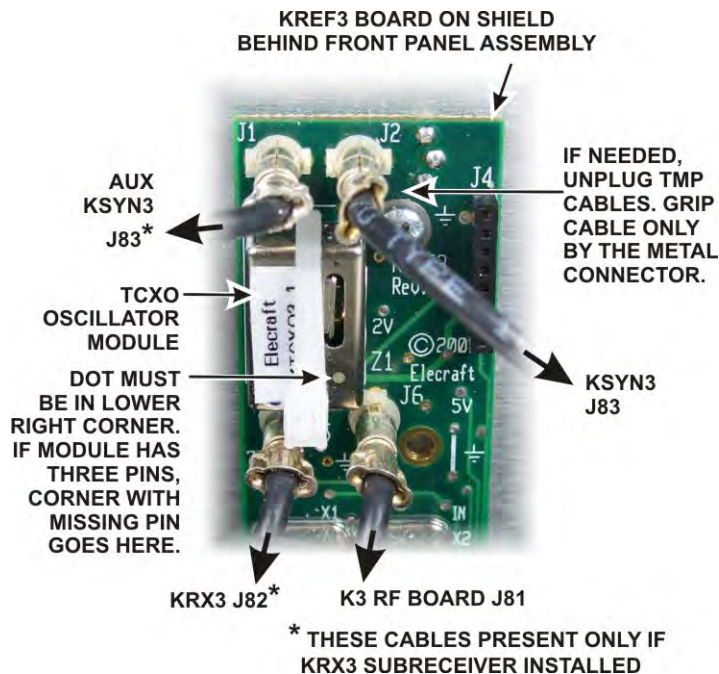

Figure 2. TCXO Module Installed on KREF3 PC Board.
- ☐ Locate the KREF3 circuit board. It is mounted against the metal shield running across the width of the K3 near the front panel (see Figure 2).
☐ Install the ± 1 ppm TCXO oscillator module with one pin in each corner connector on the socket and the dot in the lower right as shown in Figure 2. If the new module has only three pins, the corner with the missing pin is the one with the colored dot and goes in the lower right. The insulator installed in the previous step should be between the oscillator module and the socket on the KREF3 board.
☐ If you removed the black TMP cables to install the oscillator module, replace them as shown in Figure 2